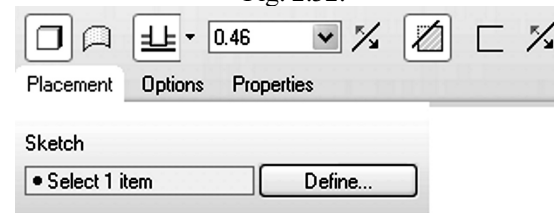

Fig. 2.33.
11. Define the sketching plane.	<p>To select the sketch plane, click Placement (in the dashboard) → Define</p> <p>Pro ENGINEER brings up “Sketch” window where we define the sketch plane.</p> <p>Refer to Fig. 2.33.</p> <p>We are going to sketch the section on the previous sketch plane - the TOP datum plane.</p> <p>Use Previous</p>